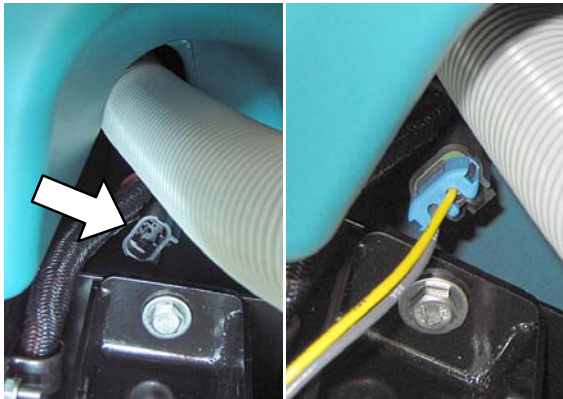

Fig. 19
- Locate the factory installed wire connector near the squeegee hose and connect the extension wire harness (Figure 19).
- Route the following ec-H2O harness wires up through the battery compartment knockout as shown (Figure 19).